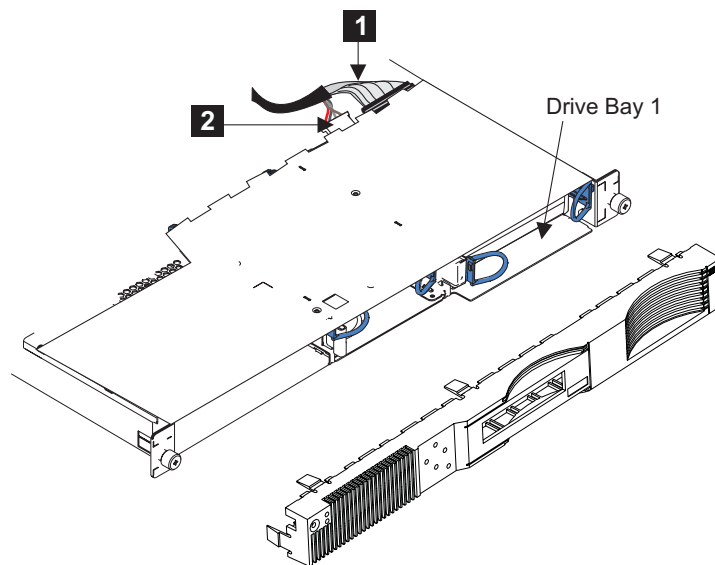

Figure 104. SAN Volume Controller 2145-4F2 disk drive and front panel
4. Disconnect the SCSI signal connector **1** and the power connector **2** from the back of the disk drive, as shown in Figure 104, and then remove the cable.